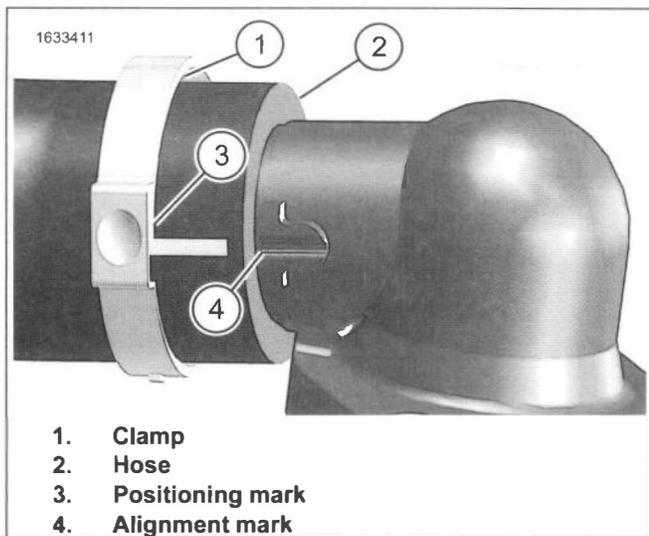

Figure 7-11. Clamp Positioning
- c. See Figure 7-11. Clean inside hose (2) and install.
- d. Align positioning mark (3) with alignment mark (4).
- e. Install and secure **new** clamp (1) on positioning mark covering line on hose as shown.